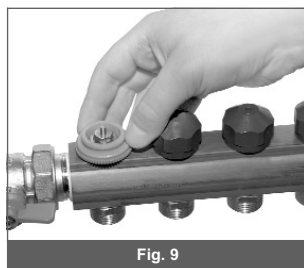

Fig. 9
3. Screw on actuator adapter M28×1,5 - red (Fig.9).